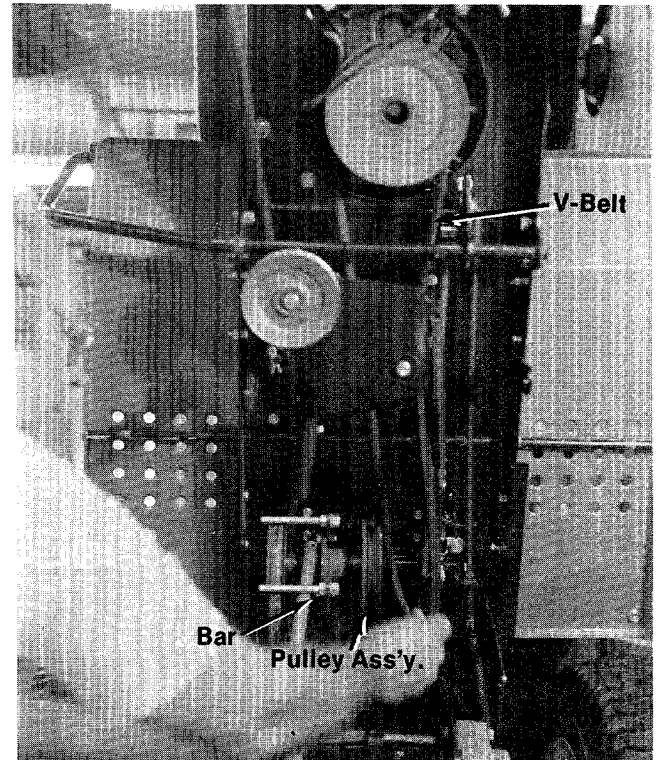

FIGURE 23
5. Using a bar or large screw driver, pry the pulley assembly towards the front of the tractor and unhook the belt from the pulley. (See figure 23.)